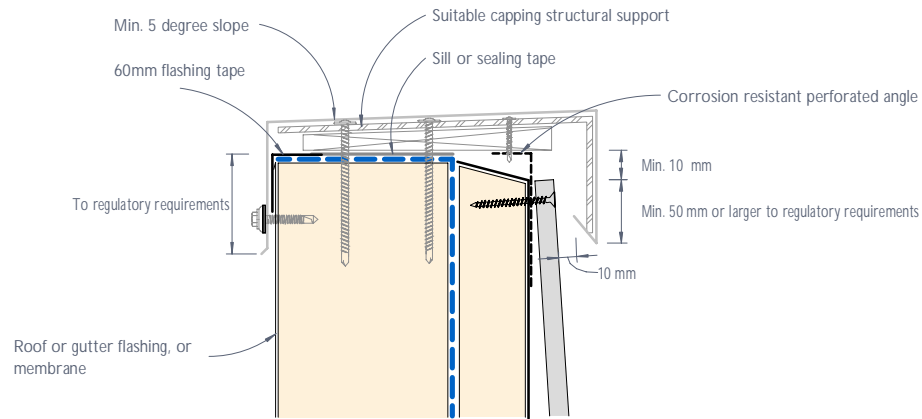

Figure 34: CEDRAL LAP typical capping detail
- 3) Capping shall be designed and engineered accordingly to provide adequate allowance for ventilation as shown in Figures 34 & 35.